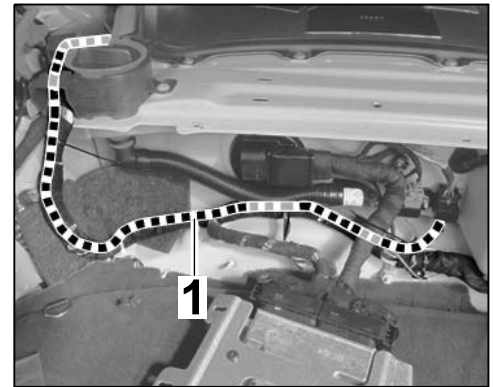

Figure 13
- 2.4.1 Route line (BK/YE) ⇒ *Figure 13 -1-* along the standard main wire harness for luggage compartment at the left.